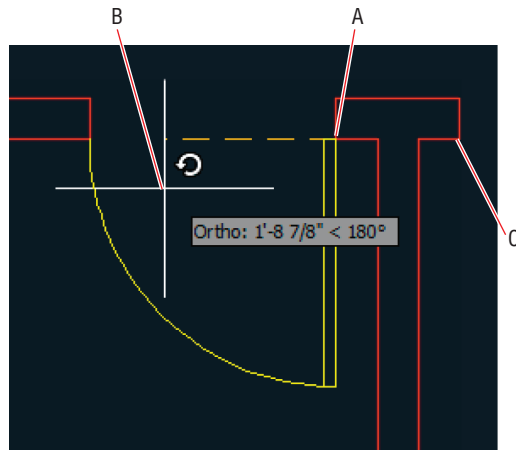

FIGURE 7.12 Inserting a door and rotating it onscreen
11. Click point A in the leftmost room, shown in Figure 7.12. Verify that Ortho mode is on in the status bar; if not, toggle it on. Move the cursor to the left to rotate the door into the proper orientation (see Figure 7.12). Click the canvas approximately at point B to insert the door.
13. Click point C shown in Figure 7.12. The command prompt reads as follows: